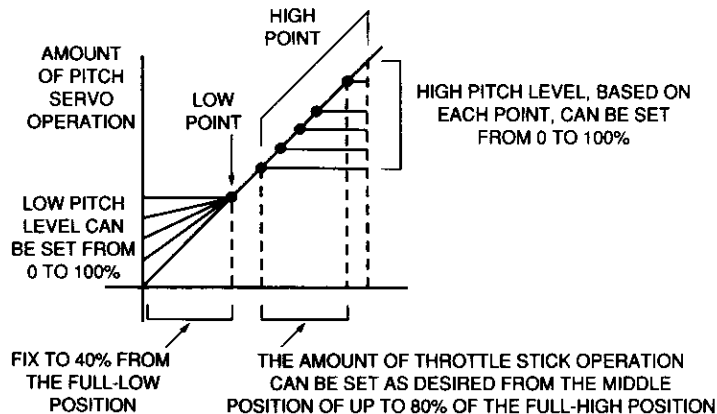

FIGURE 32
1. High point setting and High-Pitch level setting: The High-Point is the setting at which the pitch differential starts and it can be set as desired from the middle position of the throttle stick up to 80% of the full-high position, as shown in Figure 32.